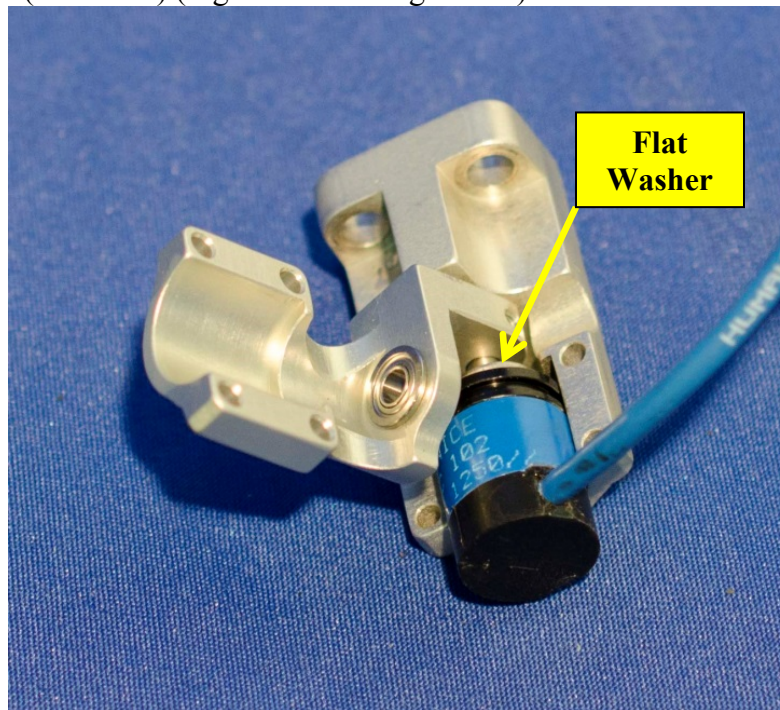
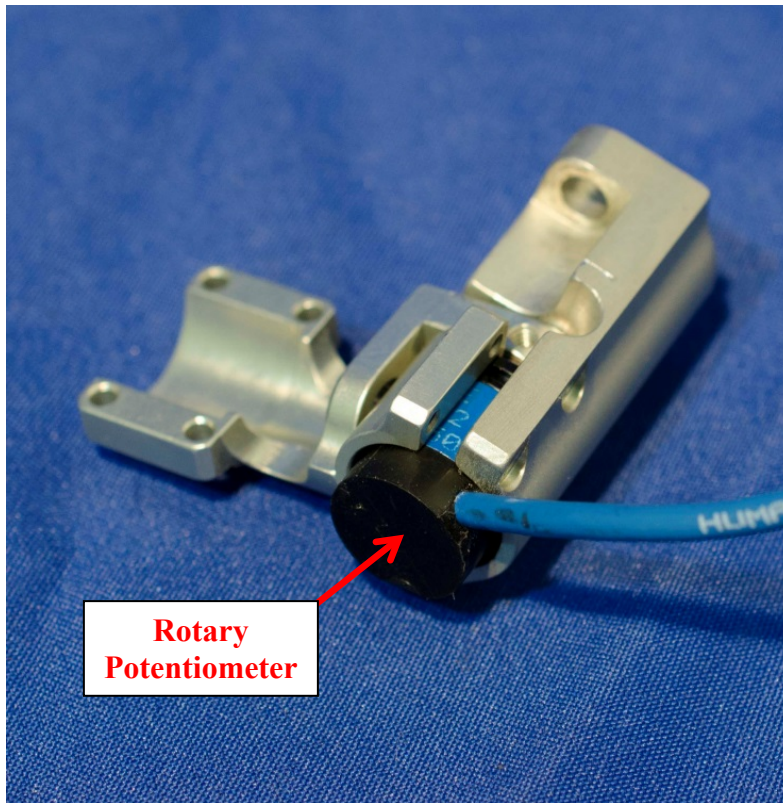

Figure 6-8. Upper thorax IR-TRACC assembly details
Figure 6-9. Upper IR-TRACC installation of rotary potentiometer
- 6.2.2.1 Assemble the Upper (Left) IR-TRACC Assembly (472-3550) by installing the Y-axis potentiometer with large M3 flat washer into the Upper IR-TRACC Base (472-3551) (Figure 6-8 and Figure 6-9).